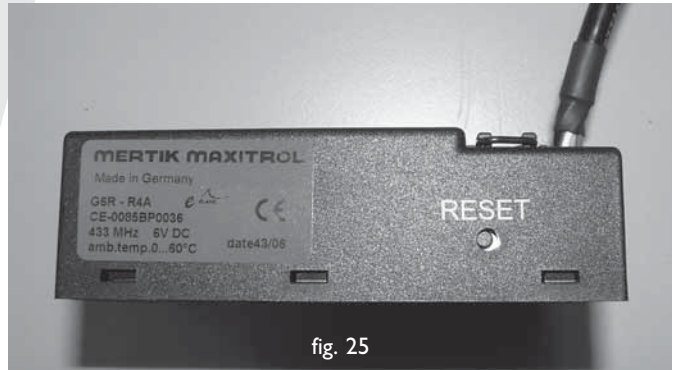

fig. 25
- Hold down the reset button on the receiver, until you hear two consecutive sound signals (see fig. 25).